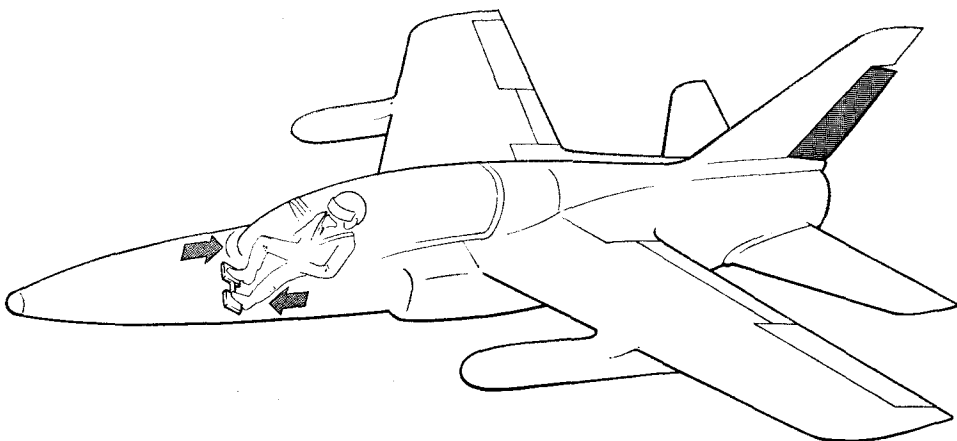

Fig 8 The rudder
11. **Rudder.** The rudder is a movable control surface, hinged to the rear edge of a part of the main structure called the fin (Fig 8). The rudder is connected to, and operated by, a foot control in the cockpit. This control is the rudder bar and pushing the left foot forward on the bar pedal causes the rudder to move to port. In flight this causes the aircraft to turn to port. Right foot forward on the pedal would cause a turn to starboard.